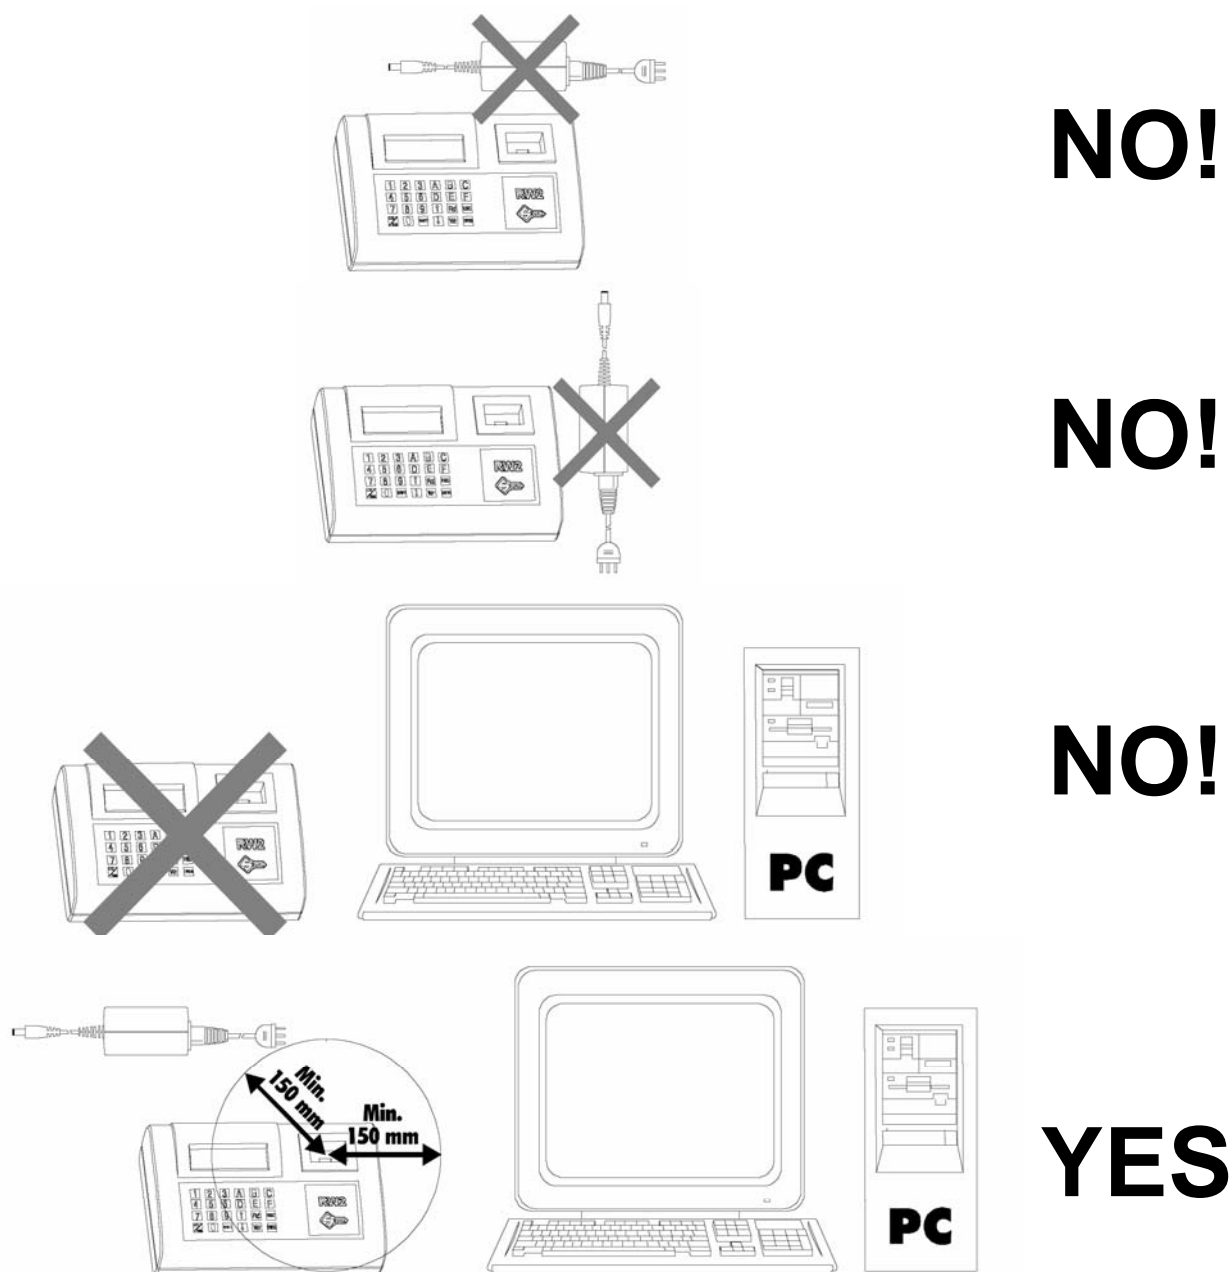

Fig. 5
**ATTENTION:** the universal feeder provided with the machine and any electronic equipment should be placed at least 150mm from the antenna to avoid their generating interference which could affect reading and/or writing of the transponder Fig. 5, page 13.